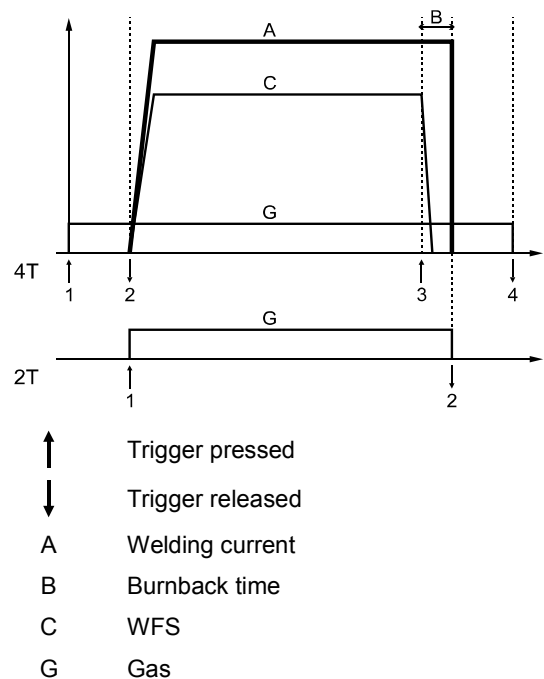

Figure 8.
27. **Gun Mode Switch:** It enables selection of 2-step or 4-step gun mode. The functionality of 2T/4T mode is shown in the Figure 8.